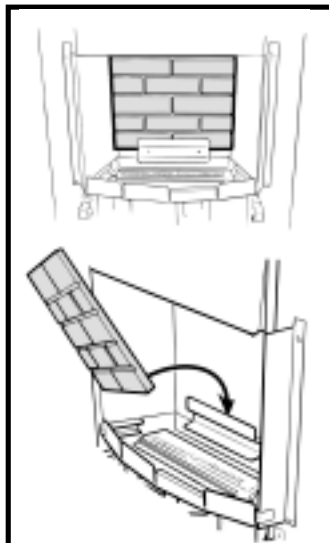

Fig. 33 Ceramic rear wall installation
**1** With its feather edge at the top, place the ceramic rear wall into the channel at the back of the firebox. Push the wall flat against the rear of the fire box. (See figure 33).